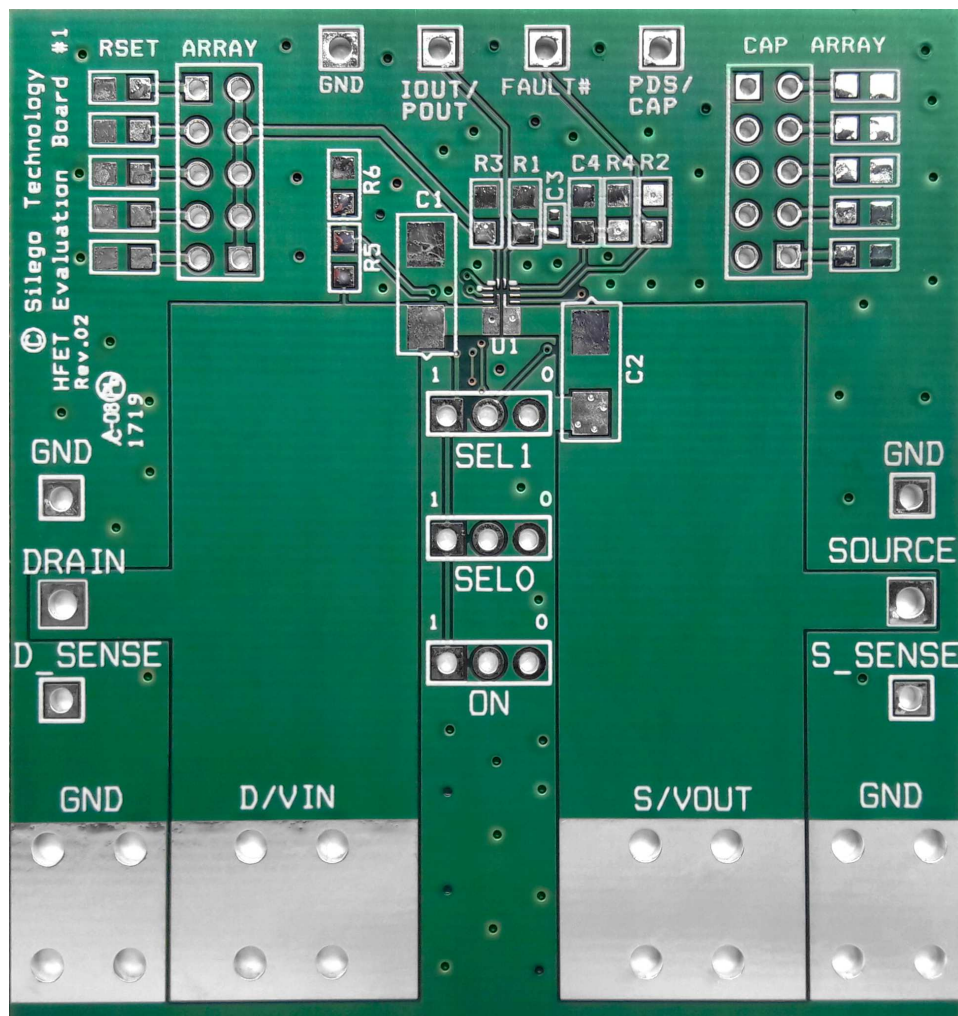

Figure 17. SLG59H1016V Evaluation Board
1. Since the VIN and VOUT pins dissipate most of the heat generated during high-load current operation, it is highly recommended to make power traces as short, direct, and wide as possible. A good practice is to make power traces with absolute minimum widths of 15 mils (0.381 mm) per Ampere. A representative layout, shown in Figure 17, illustrates proper techniques for heat to transfer as efficiently as possible out of the device;
A High Voltage GreenFET Evaluation Board for SLG59H1016V is designed according to the statements above and is illustrated on Figure 17. Please note that evaluation board has D_Sense and S_Sense pads. They cannot carry high currents and dedicated only for $R_{DS(ON)}$ evaluation.